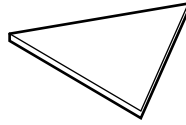

Fig. 6
- 7 Fig. 6 shows a triangular shape made from acrylic. Each side of the triangular shape is 60 mm long.